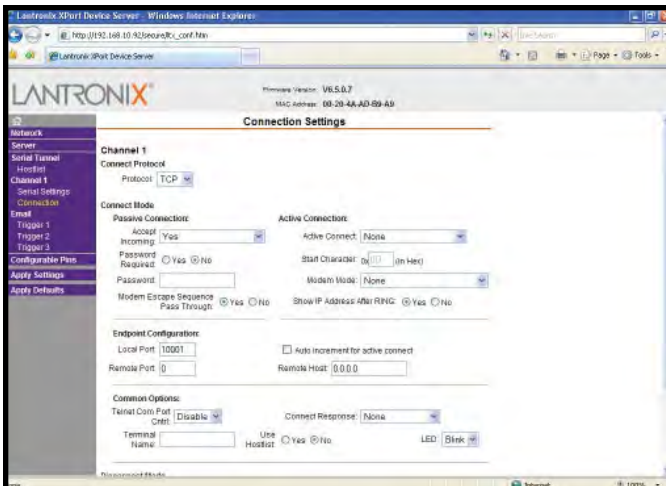

Figure 14. Channel 1 Connection Settings
- Click on the “Channel 1 Connection” link located in the left-hand margin (see Figure 14).